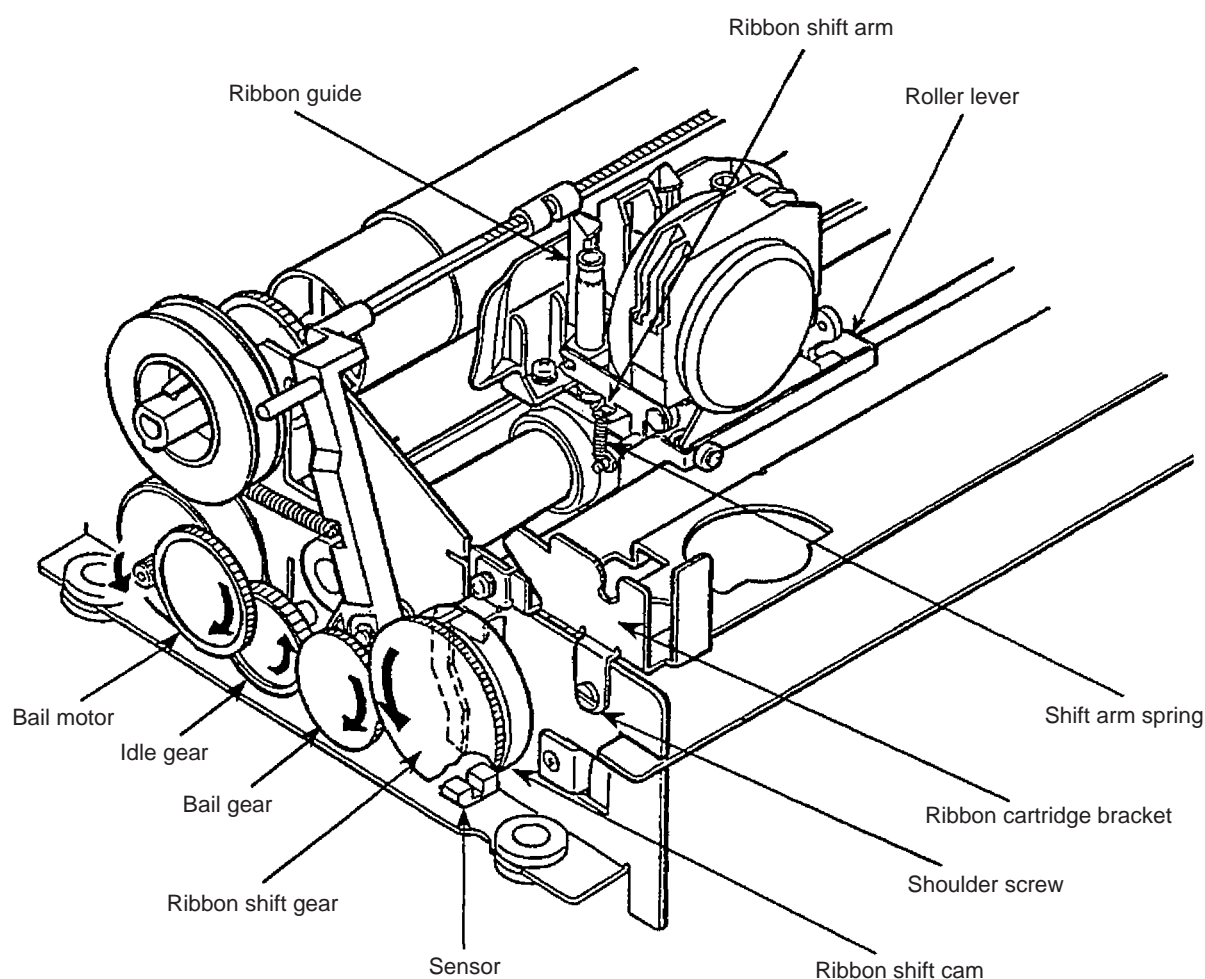

Figure 2-16 Color ribbon change mechanism
2.3.8 Color Ribbon Change Mechanism (See Figure 2-16)